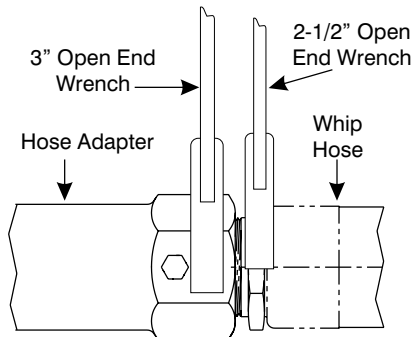

Figure 8-13. Hose Adapter, and Whip Hose
- a. Hold the Hose Adapter (15) across its flats with a 3-inch open end wrench. Refer to Figure 8-13.
- b. Use a 2-1/2-inch open-end wrench to thread the Whip Hose (14) from the Hose Adapter (15). Refer to Figures 8-13 and 8-14.